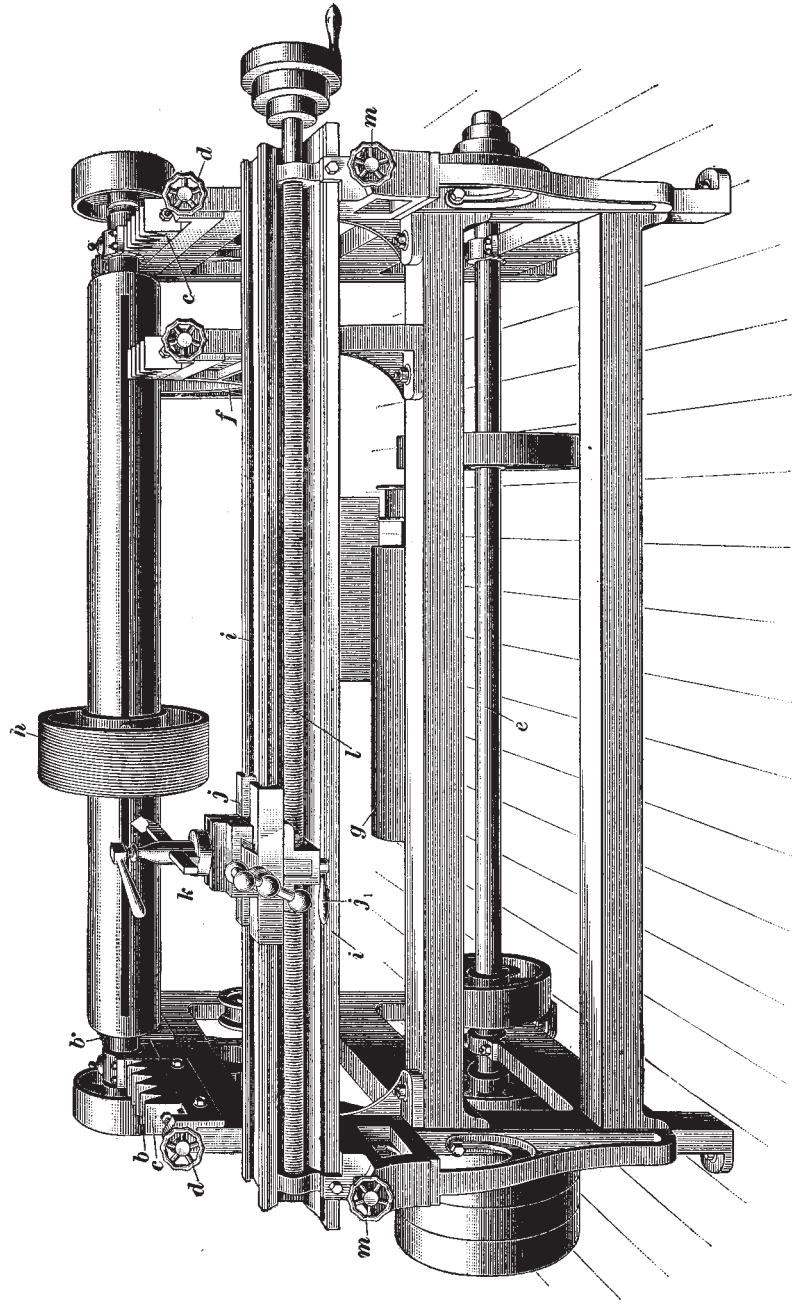
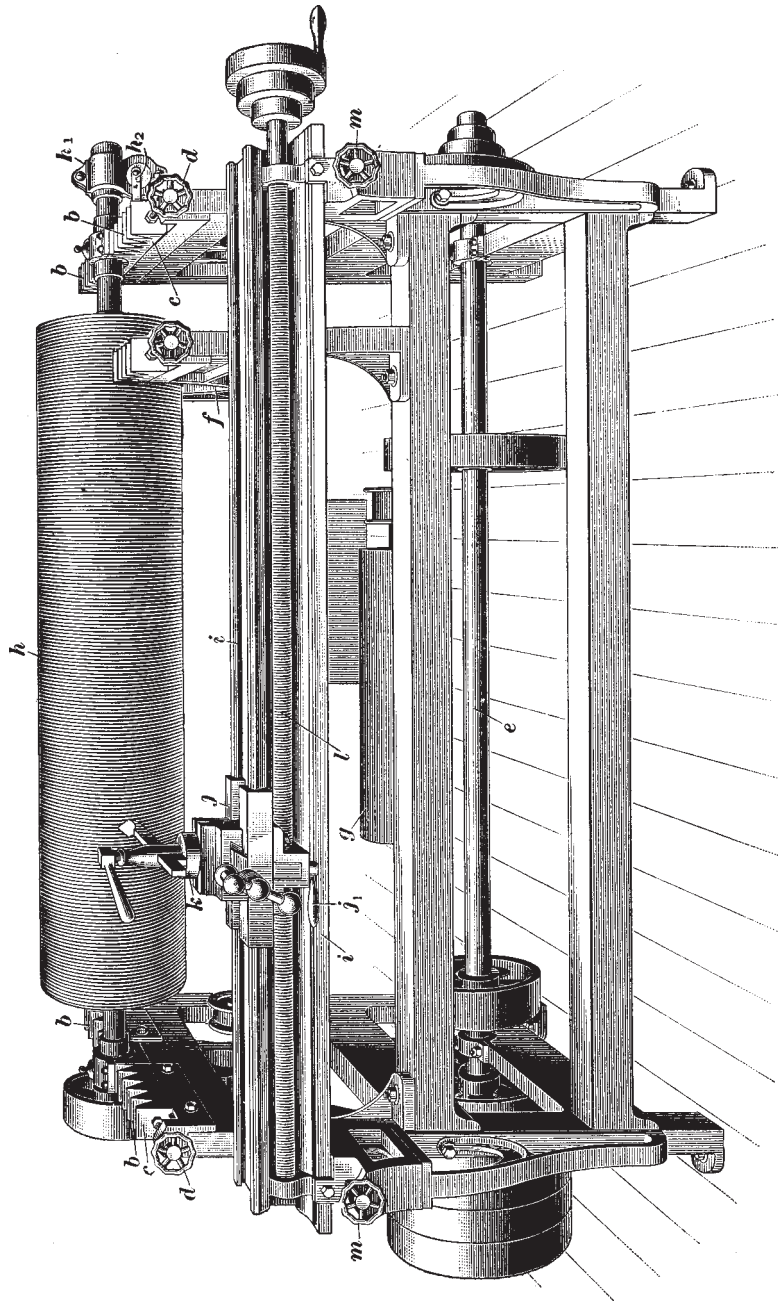

FIG. 11
FIG. 12
31. The workers, strippers, fancies, and tumblers are not ground in their positions, as are the main cylinder and doffer of the card, but are removed and taken to a machine called a **grinding frame**. This machine, shown in Fig. 11, consists of an iron frame on which is mounted, on suitable bearings, a traverse grinding wheel *h* identical with the one employed in grinding the cylinder and doffer. The grinding frame is arranged to grind two rolls at one time, one on each side of the traversing grinding wheel, the rolls being placed in **V**-shaped notches in the slides *c* that rest on the top of the frame. These slides are adjustable, by means of screws, to the grinding wheel, thus allowing the rolls being ground to be adjusted to the same. The screws are provided with hand wheels *d* for easily adjusting the rolls and also with check-nuts for locking them when once the rolls have been set. Pulleys, setscrewed to the shafts of the rolls to be ground, are driven by means of a belt from the bottom shaft of the grinding frame. The grinding wheel is also driven from the bottom shaft of the frame by two belts, one of which drives the traversing motion of the grinding wheel while the other imparts a rotating motion to it. When putting on the belts before grinding, care should be taken before the rolls are set up to the wheel to see that the directions of rotation are such that the grinding wheel will grind the backs of the teeth on each roll.
Referring to Fig. 11, it will be seen that an adjustable stand *f* also carries slides with **V**-shaped notches; this is for the purpose of grinding shorter rolls that do not have shafts long enough to rest in the bearings on each side of the machine. Inside of the frame of the grinder there is a small emery-covered roll *g* for grinding hand cards; this is driven from the main or bottom shaft.
33. The grinding frame shown in Fig. 11 contains a narrow traversing grinding wheel, but Fig. 12 shows a grinding frame known as the **roller grinder**, which is preferred by some carders. This grinder is identical with the traverse-wheel grinding frame with the exception of the wheel, or roll, *h* for grinding, which extends entirely across the frame, grinding the entire surface of the worker or other roll at once. Rolls can be ground in less time with a roller grinder, but are more liable to be ground in stripes or
unevenly. To prevent this the roller grinder has a slight traverse of about 2 inches. This is accomplished by giving the roller a reciprocating motion by means of the device shown on the right-hand side of the grinding-roll shaft. This consists of a worm on the shaft, which meshes with a worm-gear, both being contained in the casing h_1 , Fig. 12. On the side of the worm-gear is a crankpin that is connected to the stationary bearing of the grinding-roll shaft by means of rod h_2 . When the grinding-roll shaft revolves, the worm-gear is turned and the crankpin, working against the arm attached to the stationary bearing, moves the whole casing, and also the grinding roll, by means of collars on the shaft. A roller grinder is also made for grinding cylinders and doffers.
It will be noticed, Figs. 11 and 12, that the turning lathe is fastened to the front of the grinding frame and consists of a rest i on which there is a movable slide j carrying a tool post k , in which the turning knife is fastened. The slide is controlled by a screw l running the width of the frame, which is either turned by hand by means of a handle or preferably driven by means of a belt and two three-step pulleys, one on the screw shaft and the other on the bottom shaft of the